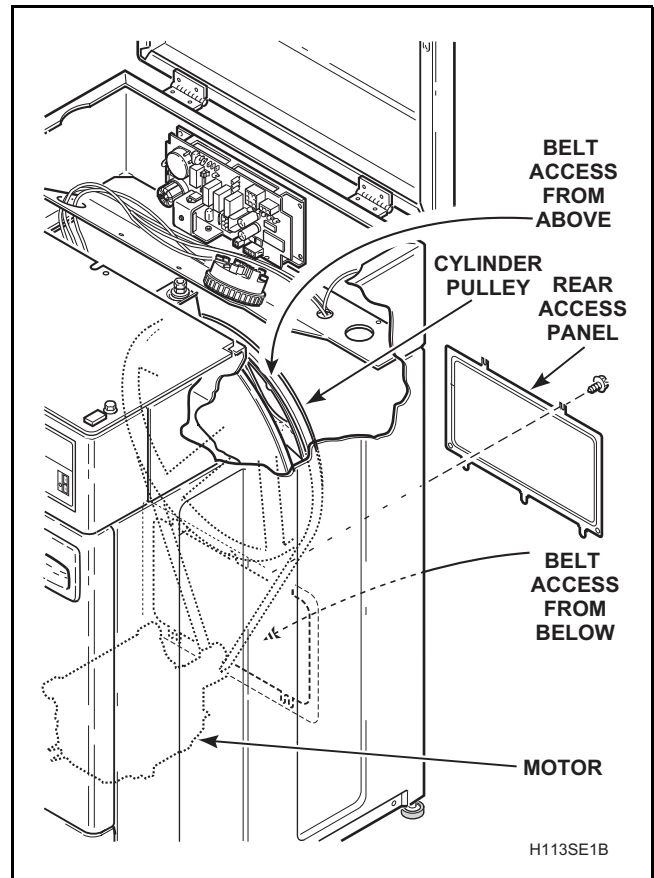

Figure 28
- Run belt off cylinder pulley while slowly turning pulley. Refer to *Figure 28*.